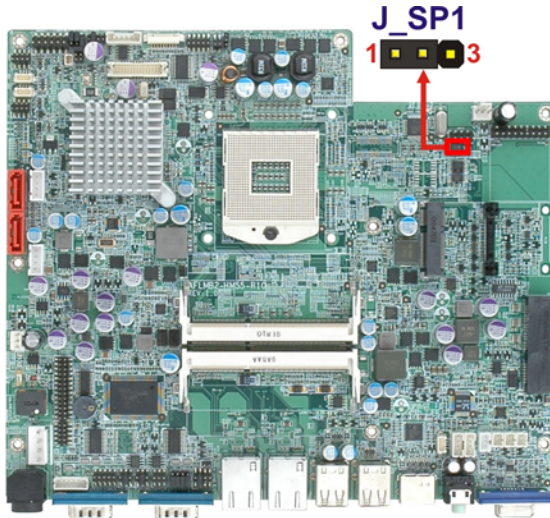

Figure 3-16: SPI Jumper Location
- Jumper Location:** See **Figure 3-16**
The SPI jumper location is shown in **Figure 3-16**.